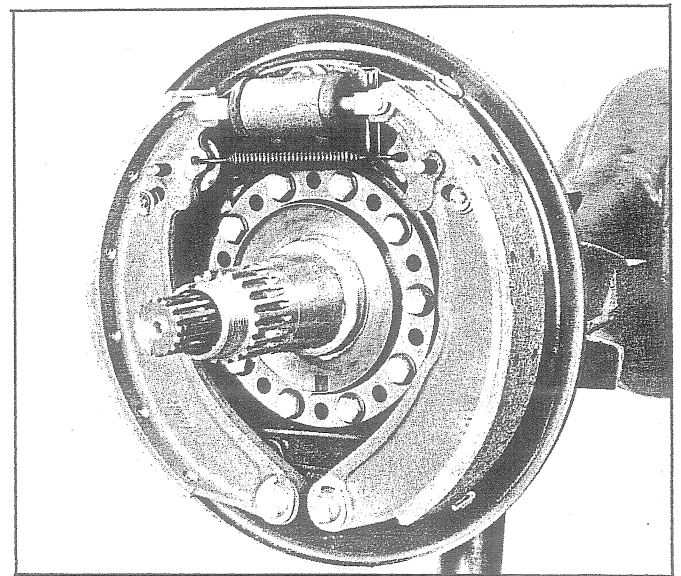

Fig. 98 - Brake Backing Plate Attached to Axle
17. Position the brake backing plate assembly and the oil catcher ring to the spindle. Secure oil catcher ring, brake backing plate and spindle to the spindle support with bolts and flatwashers tightened to 80-90 ft.-lbs. torque. See Fig. 98. (Space between the brake shoe